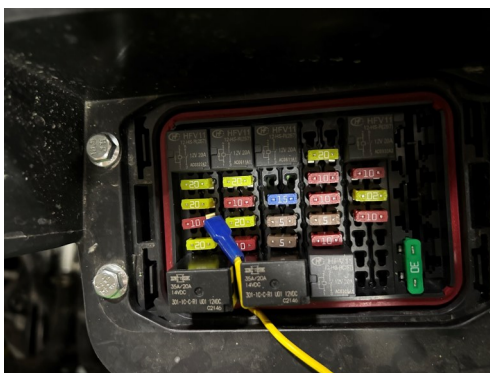

Fig. 3.5 (fuse block)
3.5 For 845 and 875 vehicles, open the hood and remove the fuse panel cover. Cut the connectors off of harness WH-00091 and install the push-on terminal provided. Install the fuse tap to the 10 amp fuse in the first row and connect the terminal as shown in figure 3.5. Reinstall the cover, with the yellow wire routed as shown.